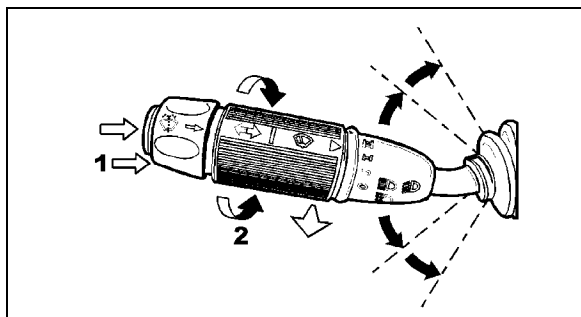

FIGURE 34: MULTIFUNCTION LEVER
Rotate the multifunction lever forward to activate lower windshield wipers (arrow 2, Figure 34). The first position operates the wipers at low speed and the second position operates the wipers at high speed. Turning the lever backwards will operate the wipers in the intermittent mode.
The lower windshield washer pump is electrically operated and is controlled by a washer control ring on the multifunction lever (item 1, Figure 34).